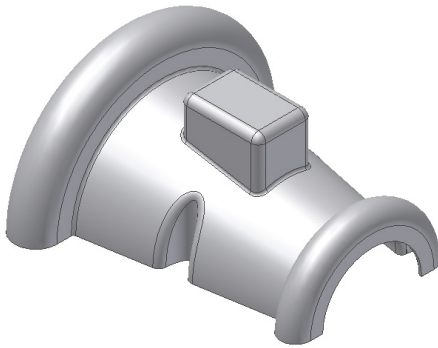
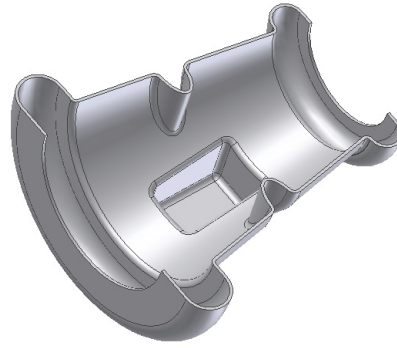

Figure 18-67 Final hybrid model
Figure 18-68 Rotated view of the hybrid model
- k. Thicken the surface using the **Thicken/Offset** tool, refer to Figure 18-68.
3. Choose **OK** to exit the dialog box. Now, turn off the visibility of the stitched surface using the **Browser Bar**. The final model for Tutorial 5 is shown in Figure 18-67. Figure 18-68 shows the rotated view of the same model.